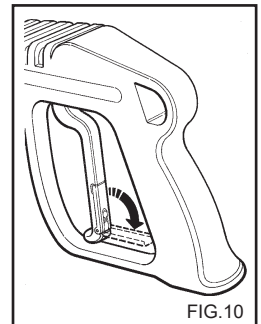

FIG. 10
- When the water cleaner is not used, close the safety device on the handle. (fig.10)